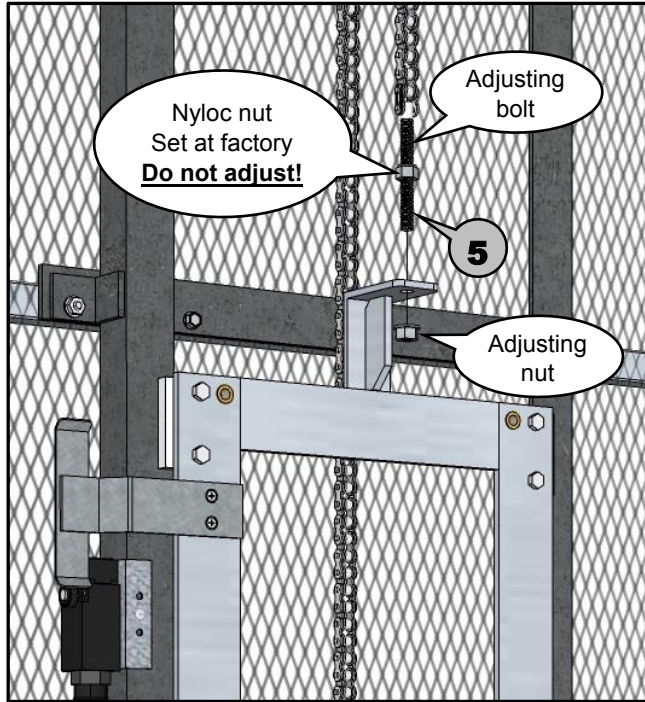

Figure 13
- 5** The other end of the chain with the adjusting bolt should hang down near the top of the trolley. Insert the threaded adjusting bolt, on the end of the chain, into the hole on the top of the trolley where the adjusting nut is tied on, and use the adjusting nut to secure the adjusting bolt to the trolley. Use a blade screwdriver or needle nose pliers to hold chain from twisting and tighten adjusting nut until Nyloc nut is tightly seated against trolley. **Do not adjust Nyloc!** (see Figure 13)